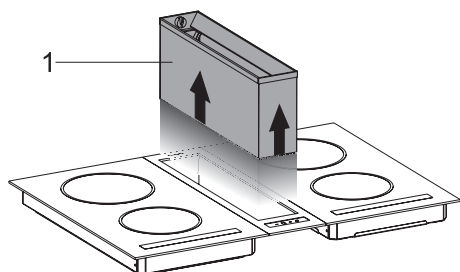

Fig. 13
3. ➔ Pull the main waste container in the direction of the arrow and remove from the container socket (Fig. 13).